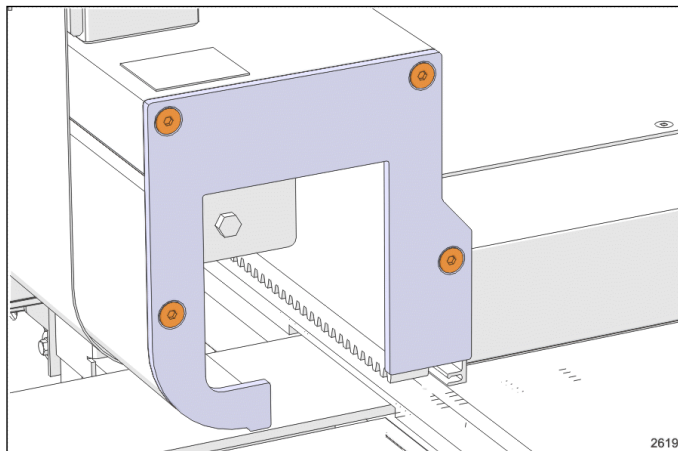

FIGURE 2: EXTRUSION END CAP
2. Then remove the room extrusion end caps. (Figure 2)